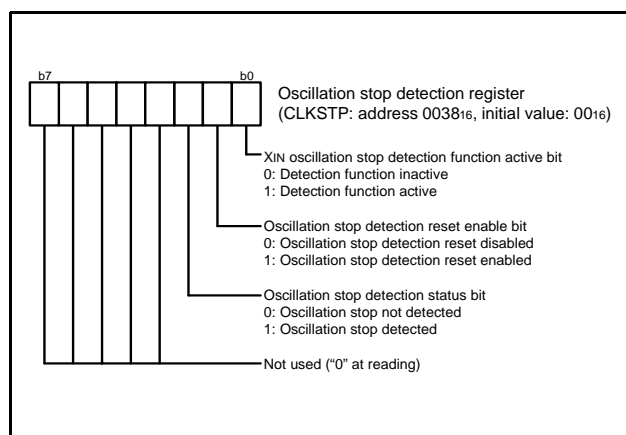

Fig 68. Structure of oscillation stop detection register
- (1) Do not execute the transition to “state 2’a” shown in Figure 68 State transition of oscillation stop detection circuit. In this state, no reset is triggered and the MCU is stopped even when the XIN oscillation stops.
- (2) After an oscillation stop detection reset, if this reset is enabled while bits XIN oscillation stop detection function active and oscillation stop detection status are retained, a reset is triggered again.
- (3) The oscillation stop detection status bit is initialized under the following conditions:
- (4) While the oscillation stop detection function is in active, the oscillation stop detection status bit may set to 1 when the watchdog timer underflows or by a reset when the STP instruction is executed with the STP instruction function selection bit set to 1.
- (5) The oscillation stop detection circuit is not included in the emulator MCU “M37549RLSS”.